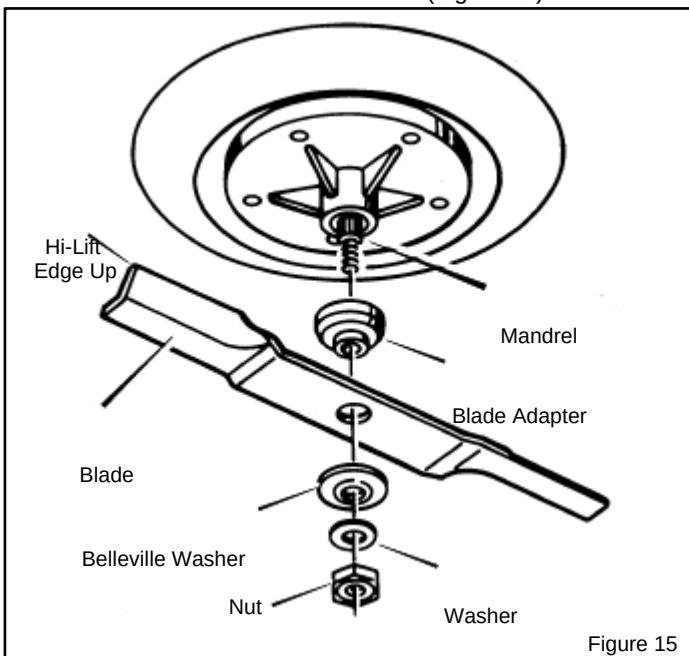

Figure 15
3. Remove the **nut** that holds the blade (Figure 15).
6. Mount the **blade** and **blade adapter** on the **mandrel** (Figure 15).